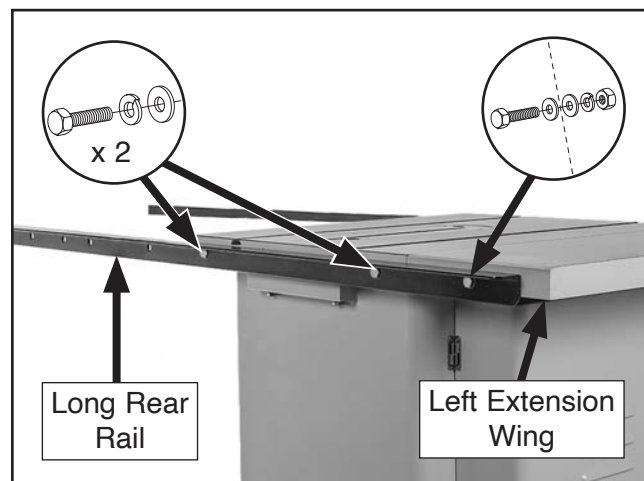

Figure 8. Long rear rail attached to saw table and left extension wing.
11. Attach long rear rail to saw table and left extension wing with fasteners removed in **Step 8** (see **Figure 8**). Hand-tighten fasteners for now.